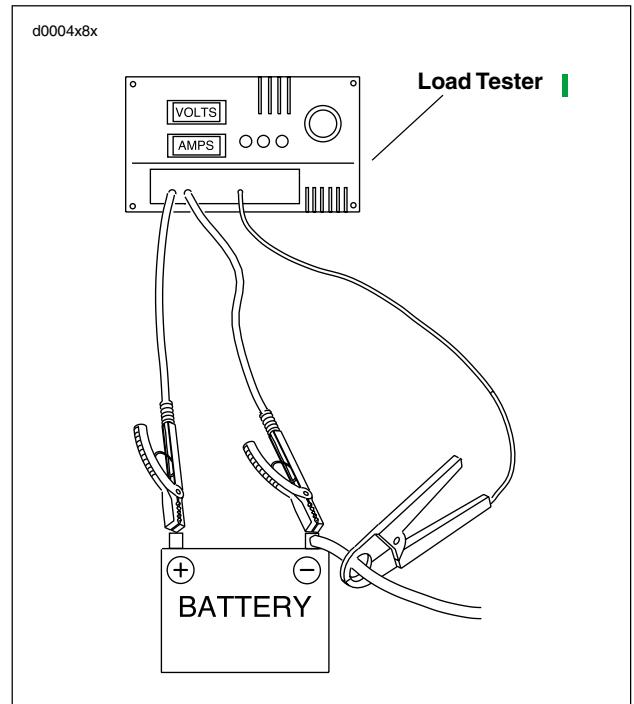

Figure 7-39. Check Current Draw (Ignition Switch ON)
1. See Figure 7-39. To check for this condition, place load tester induction pickup or current probe pickup over battery negative cable.